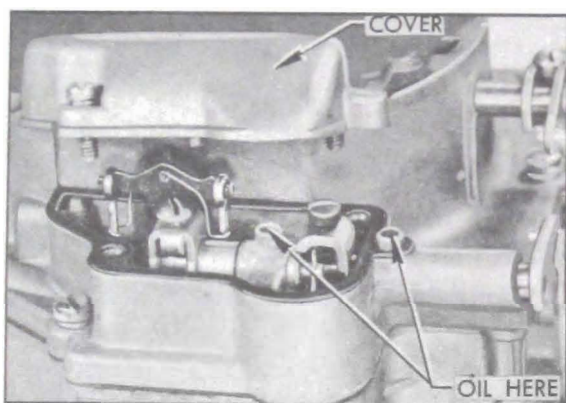

Figure 1-13—Countershaft Lubrication—Carter 2-Barrel
3. *Pump Operating Countershaft—Carter Carburetor Only.* On 2-barrel carburetors, remove dust cover and apply oil in two oil holes above countershaft. See figure 1-13.